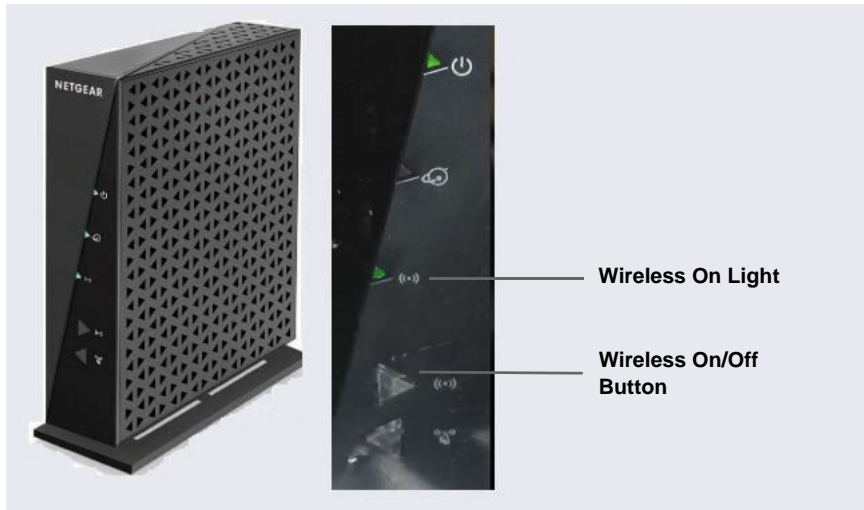

Figure 3-41. *Wireless Router On/Off Button and Status Light*
6. Check the status of the wireless on light on the router (see Figure 3-41). The light should be green for operation in wireless mode, and red